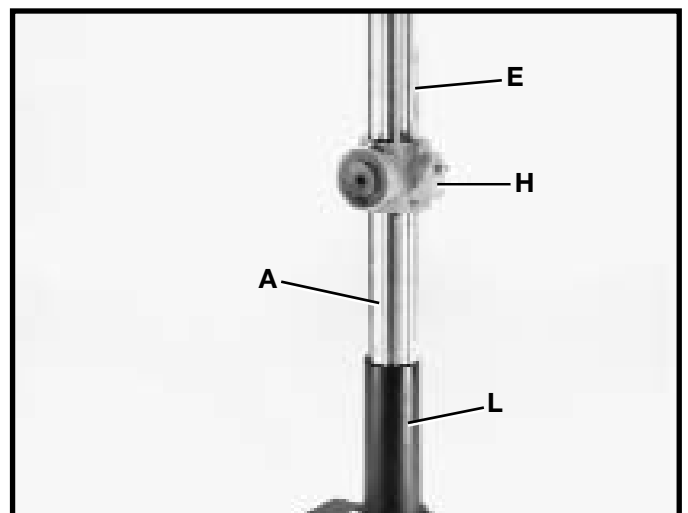

Fig. 6
6. Slide table bracket (H) Fig. 6, with raising rack (E) onto column (A), as shown.
7. Engage bottom of rack (E) Fig. 6, with flange (L) on column. Tighten table lock lever to lock table bracket (H) to column.